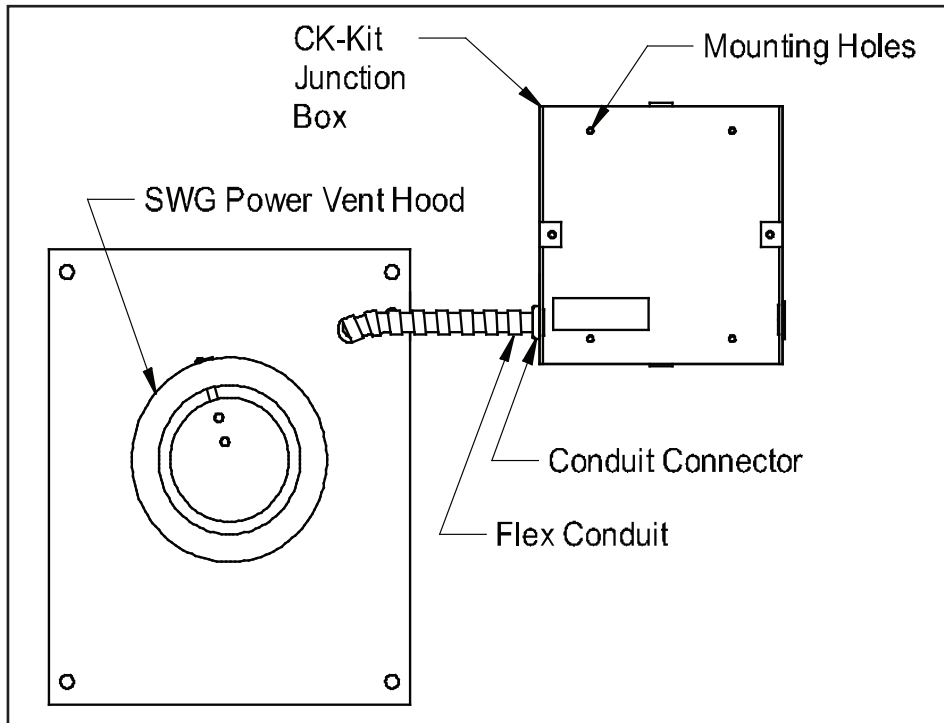

Figure 1
(See Figures 1 & 2)
2. Fasten the flexible conduit from the SWG Venter into the conduit connector. Mount the CK-20FV junction box or installer supplied junction box onto the wall or floor joist without straining the flexible conduit. Fasten the CK-20FV junction box through the four dimpled locations on the base of the box. (See Figure 1)